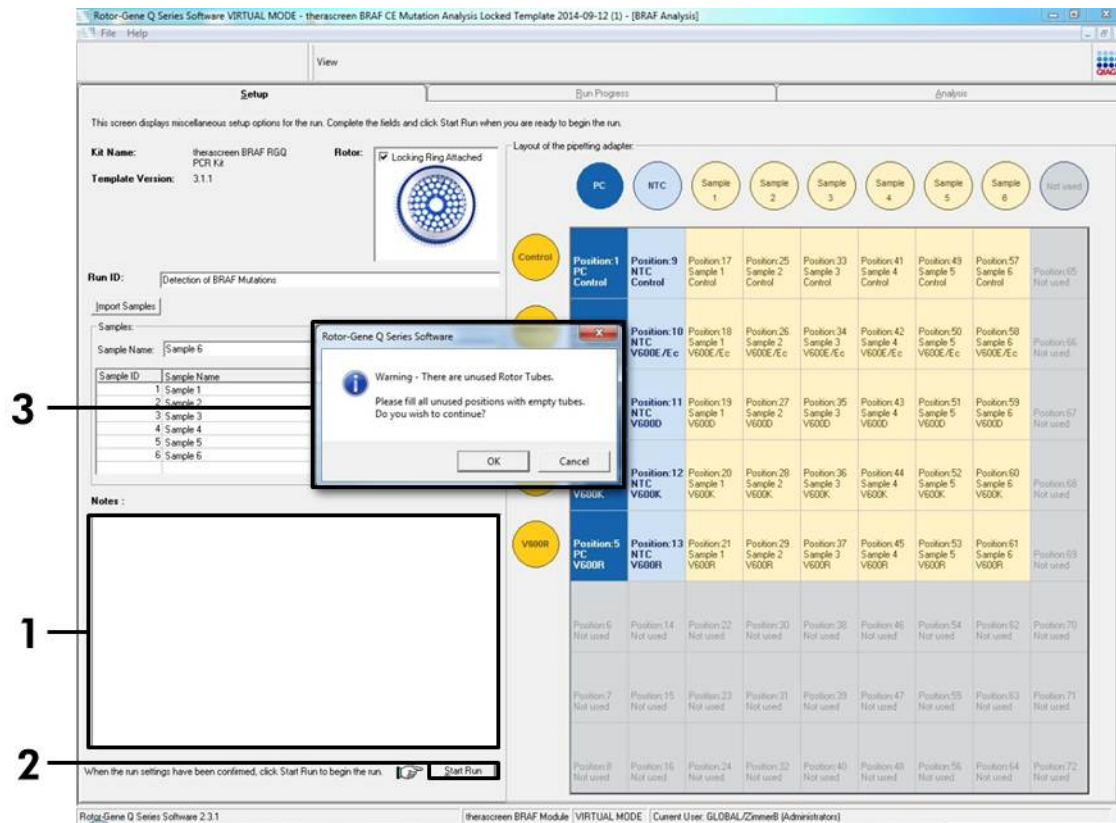

Figure 16. “Notes” dialog field (1), the “Start Run” button (2) and “Warning” of unused rotor positions (3).
13. When all sample names have been entered, verify they are correct. Add any additional information in the “Notes” dialog field if necessary and then click the “Start Run” button (Figure 16).
Note: If any rotor position is unused, a “Warning” will appear (Figure 16) to remind the user that all unused positions on the rotor must be filled with a capped, empty tube. Check that all unused rotor positions are filled with a capped, empty tube and click “OK” to proceed.